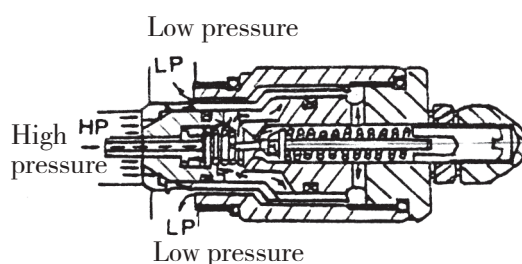

Fig.7.6
(2) When the pressure in the cylinder port “HP” reaches the set pressure of the pilot poppet spring force, the pilot poppet “E” opens. The oil passes around the poppet, flowing through the drilled hole to the low pressure side “LP”. (See fig.7-6)